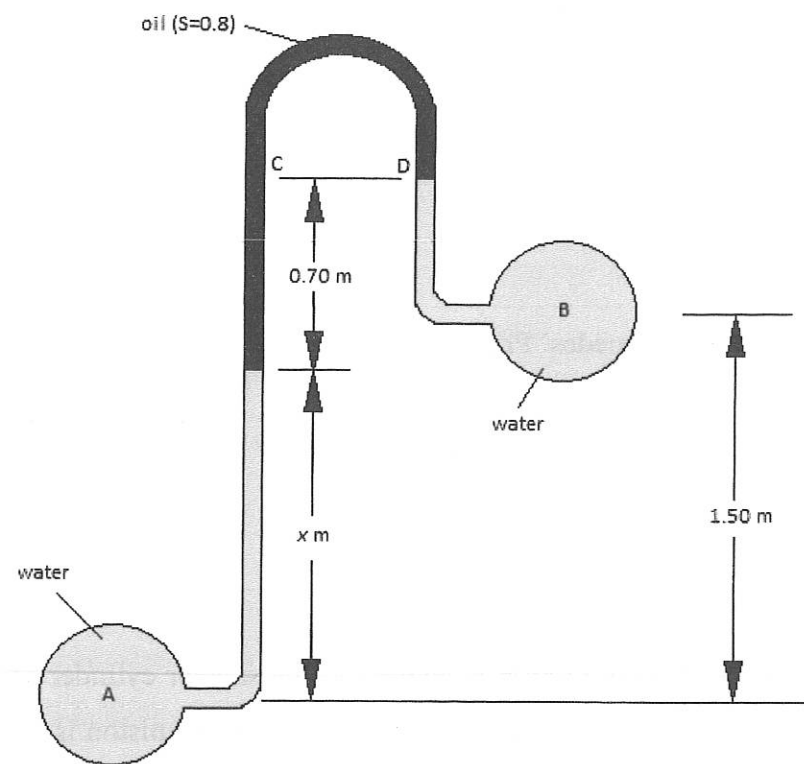

Figure 2c / Rajah 2c
- c) Calculate the pressure difference between A and B in kN/m^2 as shown in Figure 2c.